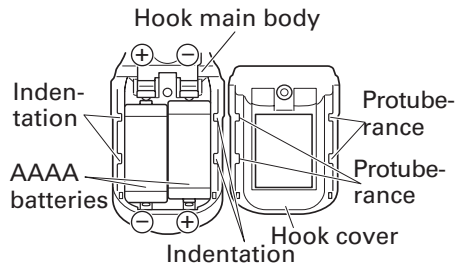

Fig. 12
- (2) Remove the old batteries and insert the new batteries. Align with the hook indications and position the plus (+) and minus (-) terminals correctly. (Fig. 12)